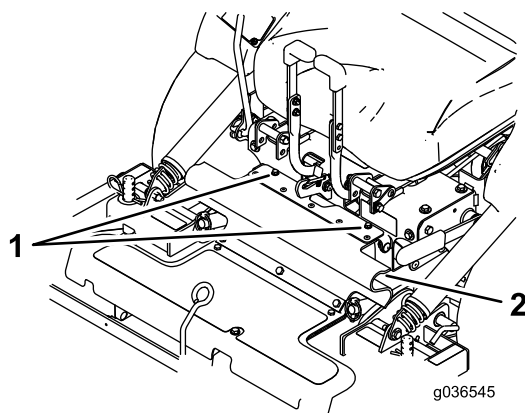

Figure 10
3. Remove the hairpin cotters and clevis pins from both sides of the PTO guard (Figure 10).